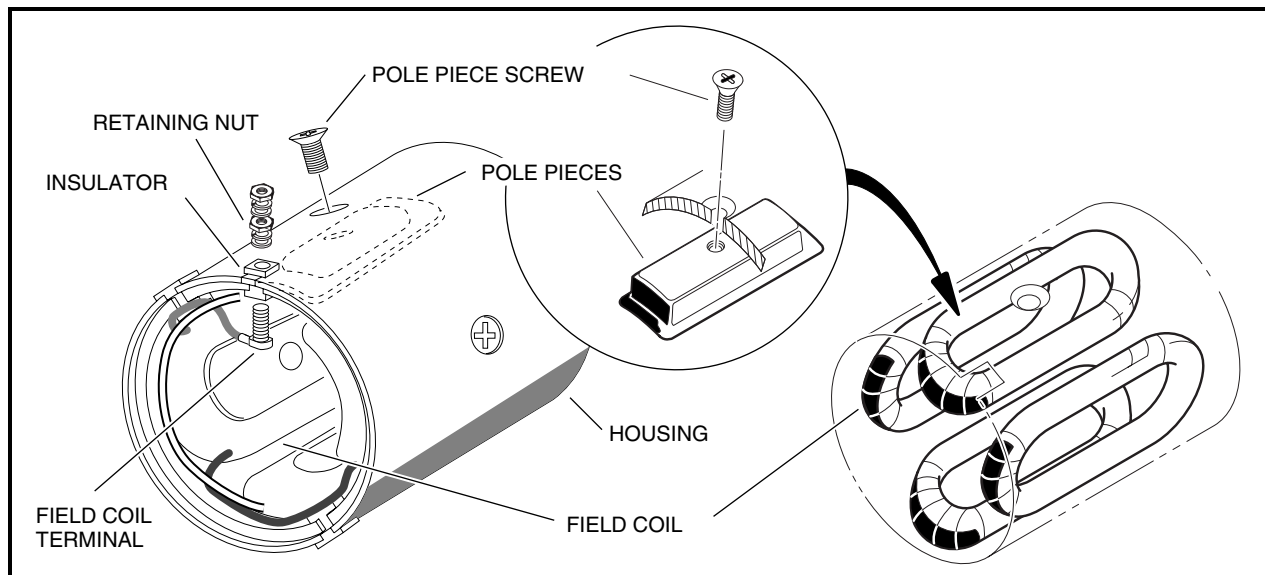

Figure 12-11 Field Coil Assembly
1. Remove the retaining nut from each field coil terminal and slide the insulator out of the slots in the housing. Remove the four pole piece screws from the housing. Remove the four pole pieces from inside the housing. Remove the field coils from the inside of the housing (**Figure 12-11, Page 12-6**). See following
**NOTE:** Do not remove the insulators or the field coils unless an electrical test indicates that it is necessary (**Figure 12-11, Page 12-6**). See **Test Procedure 8, Section 11, Page 11-28**.
2. After the insulators are seated in the slots, install the threaded terminals through the wire connectors and then through the insulators. Install a flat washer, lock washer and nut onto each threaded terminal on the outside of the housing. Tighten nuts to 47.5 in-lb (5.4 N·m) (**Figure 12-11, Page 12-6**). See following **CAUTION**.
3. Install the four pole pieces into the housing. Use the four screws to secure pole pieces to the inside of the housing to retain the field wires. Tighten screws to 9 ft-lb (12.2 N·m) (**Figure 12-11, Page 12-6**).